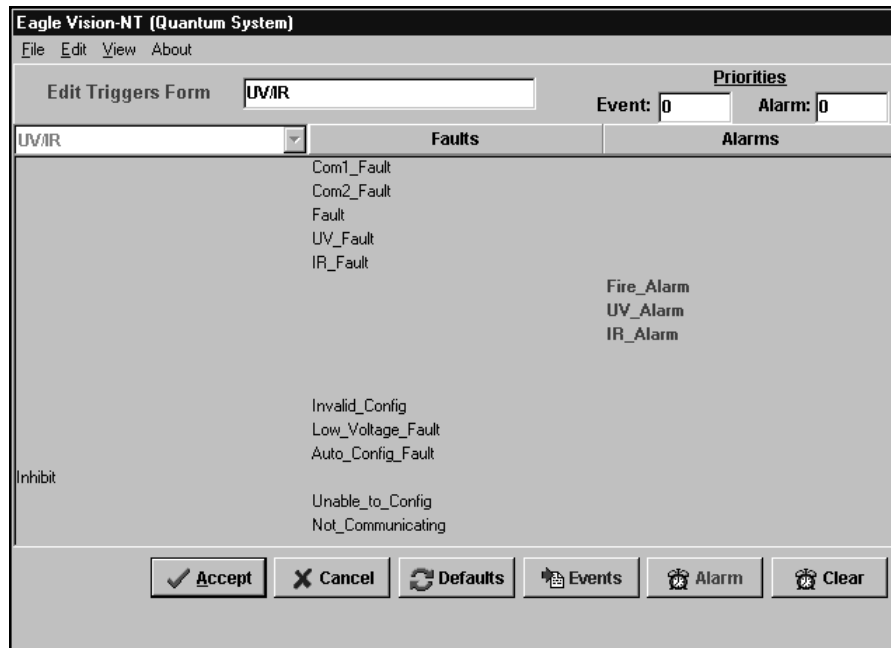

FIGURE V-2
3. To view or modify the selected trigger list, click on the Modify button. To create a new trigger list, click on the New button. The Edit Triggers screen will be displayed. See Figure V-2.